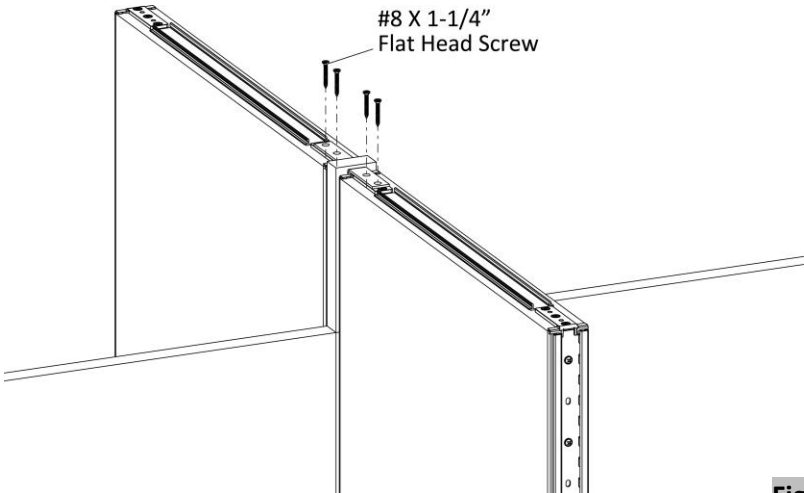

Figure 9
- Drive four #8 x 1-1/4" Flat Head Screws through the holes in the gallery panel top bracket into the panels, (Figure 9).